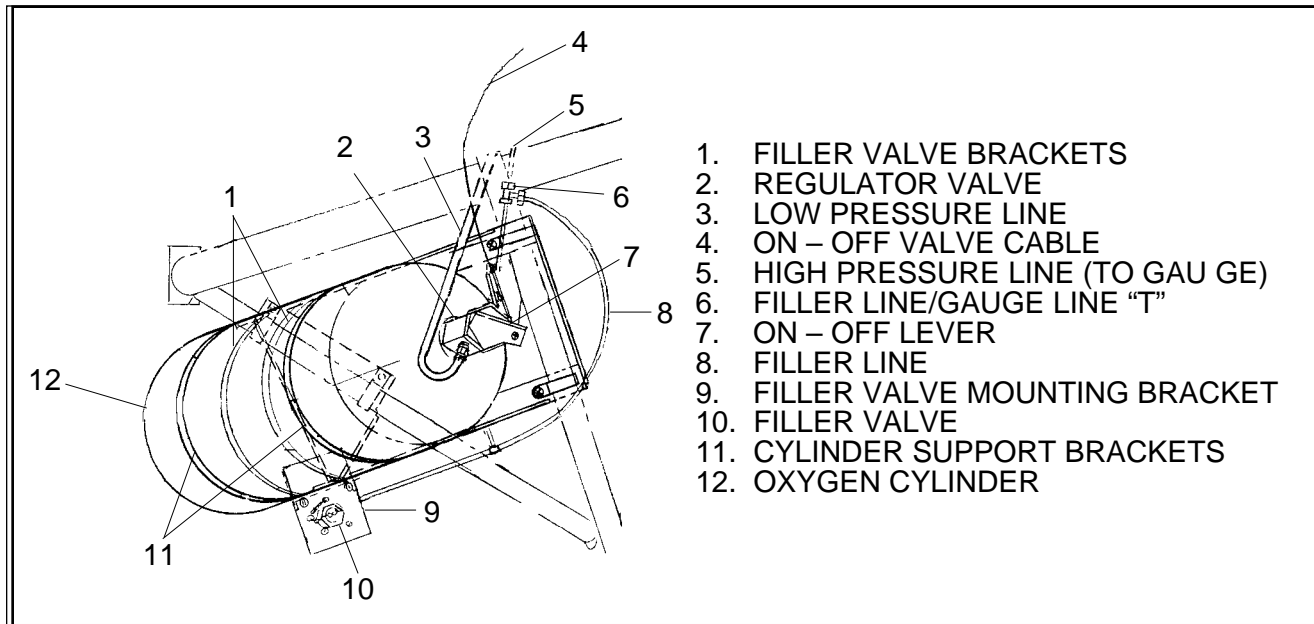

Figure 35-6 Oxygen Cylinder and Regulator Valve
REMOVAL OF OXYGEN CYLINDER (Seneca III models, s/n's 34-8433001, 34-8433002, 34-8433010, 34-8433012, 34-8433013, 34-8433025 and up, and 3448001 thru 3448037, and Seneca IV airplanes, s/n's 3448038) (Refer to Figure 35-6.)
REMOVAL OF OXYGEN CYLINDER (Seneca III models, s/n's 34-8433001, 34-8433002, 34-8433010, 34-8433012, 34-8433013, 34-8433025 and up, and 3448001 thru 3448037, and Seneca IV airplanes, s/n's 3448038) (Refer to Figure 35-6.) (continued)
INSTALLATION OF OXYGEN CYLINDER (Seneca III models, s/n's 34-8433001, 34-8433002, 34-8433010, 34-8433012, 34-8433013, 34-8433025 and up, and 3448001 thru 3448037, and Seneca IV airplanes, s/n's 3448038) (Refer to Figure 35-6.)
1. Position cylinder in airplane as shown in Figure 35-6. Check to be sure that regulator and valve are free to move and do not contact surrounding area.
INSTALLATION OF OXYGEN CYLINDER (Seneca III models, s/n's 34-8433001, 34-8433002, 34-8433010, 34-8433012, 34-8433013, 34-8433025 and up, and 3448001 thru 3448037, and Seneca IV airplanes, s/n's 3448038) (Refer to Figure 35-6.) (continued)